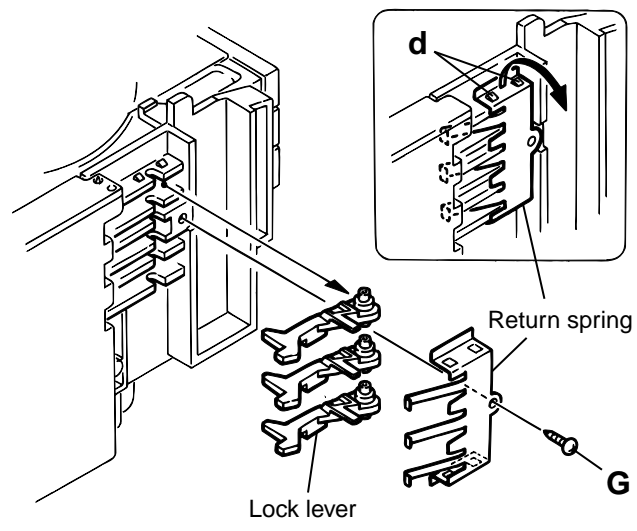

Fig.4
9. From the left side face of the chassis assembly, remove the one screw **G** retaining both of the return spring and lock lever(See Fig. 4).
- 10.By removing the pawl at the section "d" fixing the return spring, dismount the return spring(See Fig.4).
- 11.Remove the three lock levers(See Fig.4).